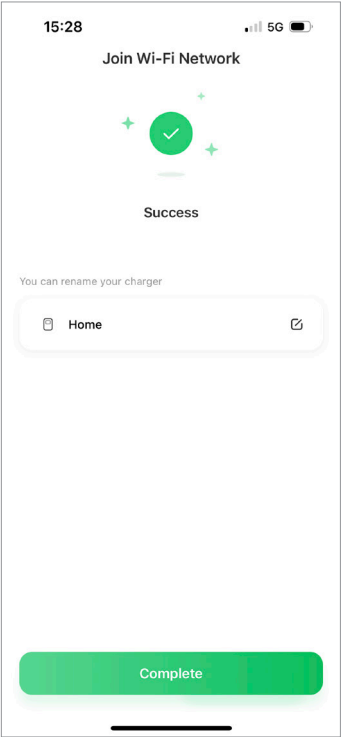

Fig. 6-12
3. Connected successfully. You can tap the  icon to rename your charger. (See Fig. 6-12)